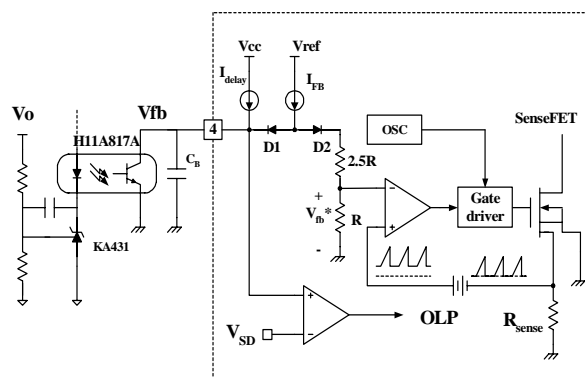

Figure 5. Pulse width modulation (PWM) circuit
**2. Feedback Control** : FSDM07652RB employs current mode control, as shown in Figure 5. An opto-coupler (such as the H11A817A) and shunt regulator (such as the KA431) are typically used to implement the feedback network. Comparing the feedback voltage with the voltage across the Rsense resistor plus an offset voltage makes it possible to control the switching duty cycle. When the reference pin voltage of the KA431 exceeds the internal reference voltage of 2.5V, the H11A817A LED current increases, thus pulling down the feedback voltage and reducing the duty cycle. This event typically happens when the input voltage is increased or the output load is decreased.
**2.1 Pulse-by-pulse current limit**: Because current mode control is employed, the peak current through the Sense FET is limited by the inverting input of PWM comparator ( $V_{fb}^*$ ) as shown in Figure 5. Assuming that the 0.9mA current source flows only through the internal resistor ( $2.5R + R = 2.8 k\Omega$ ), the cathode voltage of diode D2 is about 2.5V. Since D1 is blocked when the feedback voltage ( $V_{fb}$ ) exceeds 2.5V, the maximum voltage of the cathode of D2 is clamped at this voltage, thus clamping  $V_{fb}^*$ . Therefore, the peak value of the current through the Sense FET is limited.